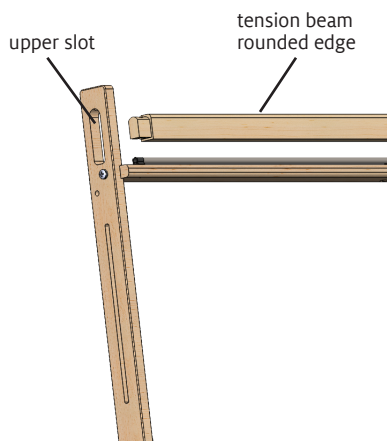

FIGURE 4: INSERT THE TENSION BEAM
4. Insert the tension beam, rounded edge up, into the upper slot of the left upright (Figure 4).